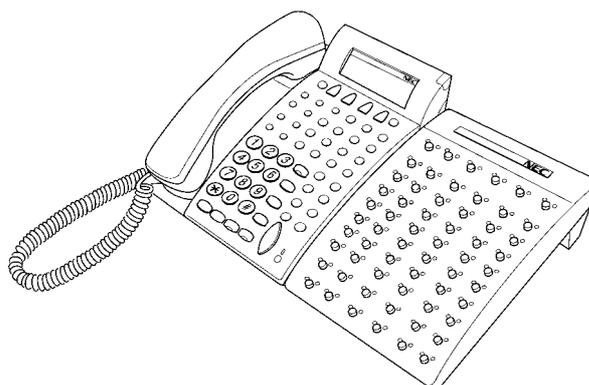

Figure 6-10 Attendant Console and Multiline Terminal
4. When the Attendant Console and the Multiline Terminal are properly connected, they sit side-by-side as shown in *Figure 6-10 Attendant Console and Multiline Terminal*.